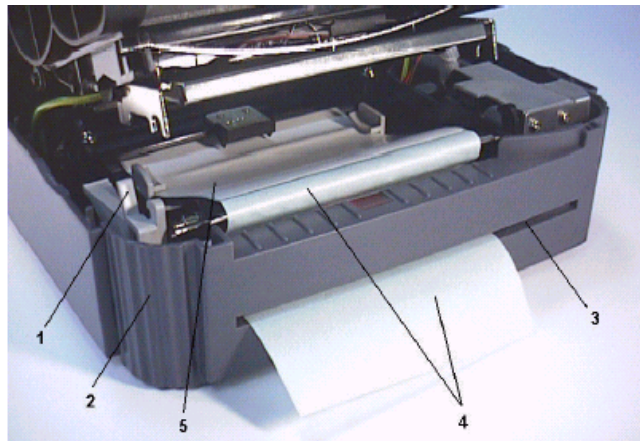

Figure 14. Printer ready for self-peeling function
- Feed the backing paper through the backing paper opening in the front panel, *as shown in Figure 14.*